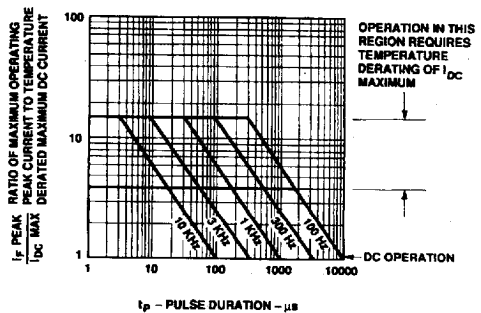

Figure 2. Maximum Tolerable Peak Current vs. Pulse Duration - AlGaAs Red.
3. See Figure 2 to establish pulsed conditions.